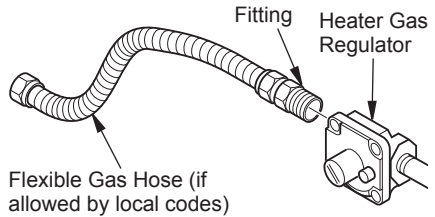

Figure 15 - Attaching Flexible Gas Hose to Heater Gas Regulator
1. Open equipment shutoff valve (see Figure 15).